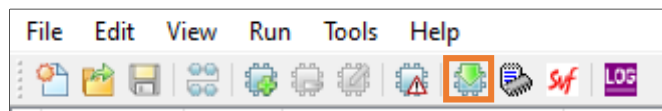

Figure 6.4. Programming Menu Bar
- Click the **Program Device** button from the menu bar to start programming (Figure 6.4).